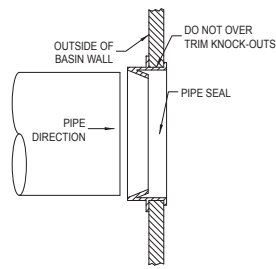
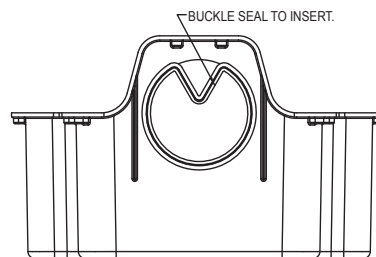

Figure 2.2
Figure 2.3
- 1.3) Trim and clean the diameter of the hole, leaving it the same as the molded diameter. **DO NOT OVER TRIM DIAMETER.** Refer to **Figure 2.2**
- 2.2) Place pipe seals in necessary holes as shown in Figure 2.2 & Figure 2.3.